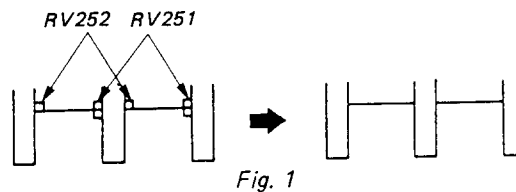

Fig. 1
2. Connect an oscilloscope to pin ③ of BA-6 connector.
4. Adjust RV251 and RV252 for the waveform at connector BA-6 pin ③ to become as Fig. 1.